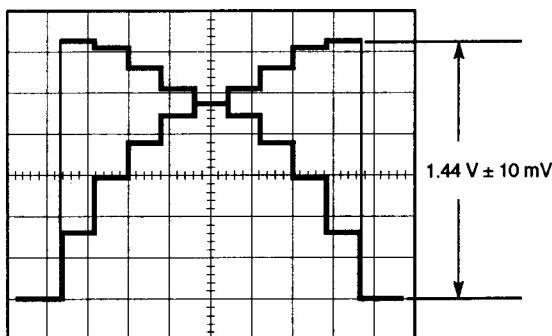

Fig. 5-1-30
- Adjust VR108 so that the Video signal level becomes $1.44 V \pm 10$ mV as shown in Fig. 5-1-30.
- Adjust VR208 so that the Video signal level becomes $1.44 V \pm 10$ mV as shown in Fig. 5-1-30.
- Adjust VR308 so that the Video signal level becomes $1.44 V \pm 10$ mV as shown in Fig. 5-1-30.